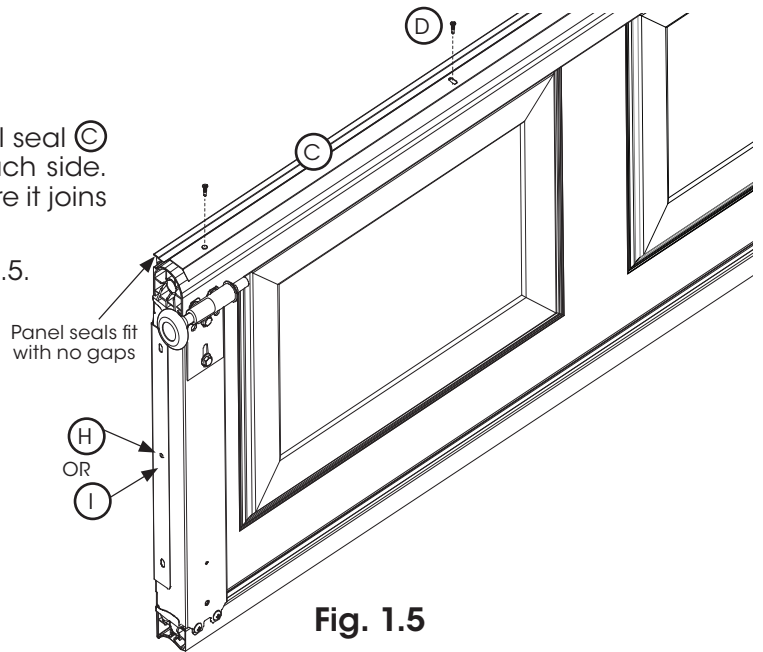

Fig. 1.5
- a) Measure the top panel and cut the top panel seal (C) with overlap of seals (H) or (I) by 5mm on each side. Ensure there are no gaps at each corner where it joins the side seals.
- b) Secure the seal with tek screws (D) as per Fig 1.5.